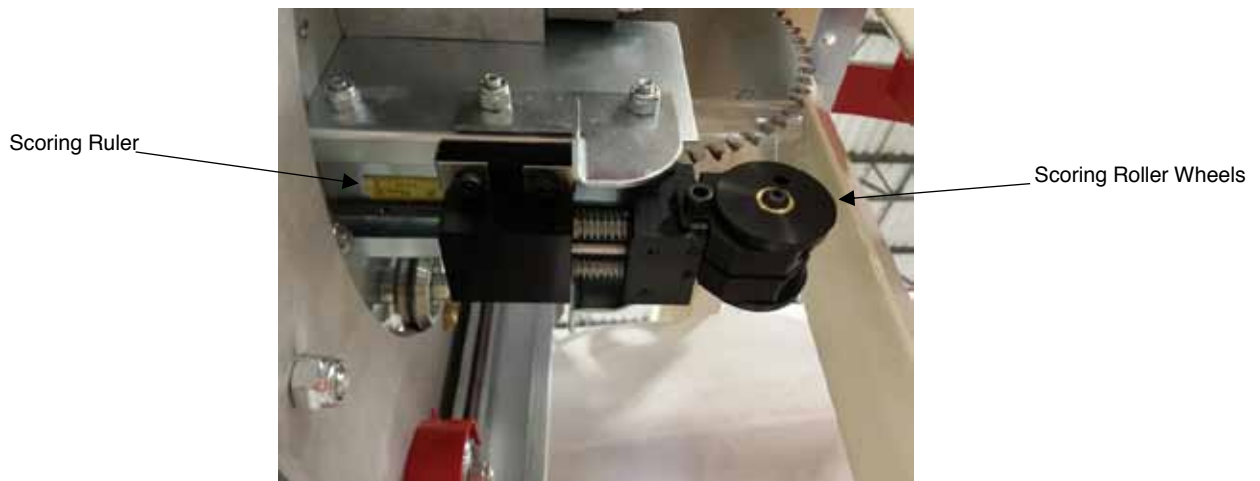
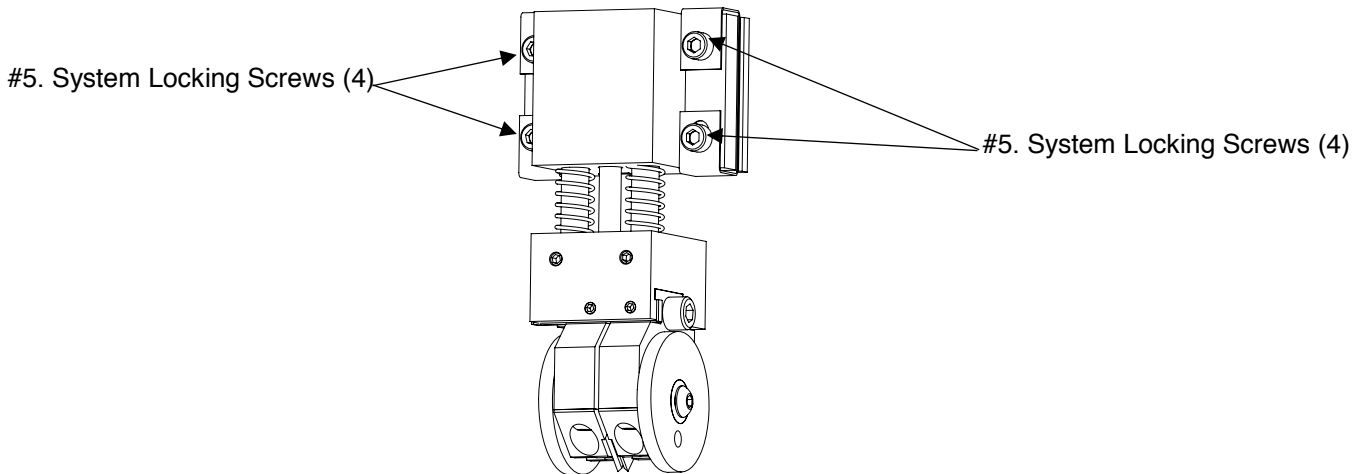

Figure 34: Scoring Attachment 7400
Figure 36: Disengage Scoring
NOTE: The Scoring Roller Wheels (Fig. 34) should raise approximately 1/8" when contacting material to be cut.
1. Make note of measurement on Scoring Ruler (Fig. 34) for fast repositioning of Scoring System when cutting equal thickness material. Loosen the four system locking screws #5, Fig. 36.
3. Tighten all four System Locking Screws, #5, Fig. 36.
2. Slide entire Scoring System down to engage material being cut. The Roller Wheels should raise approximately 1/8" when contacting the material to be cut. Note the measurement on the Scoring Ruler (Pg. 29, Fig. 34) for fast positioning of the Scoring System when the same material thickness is cut in the future. Fine tuning the actual position of the Scoring System may be necessary for specific applications.